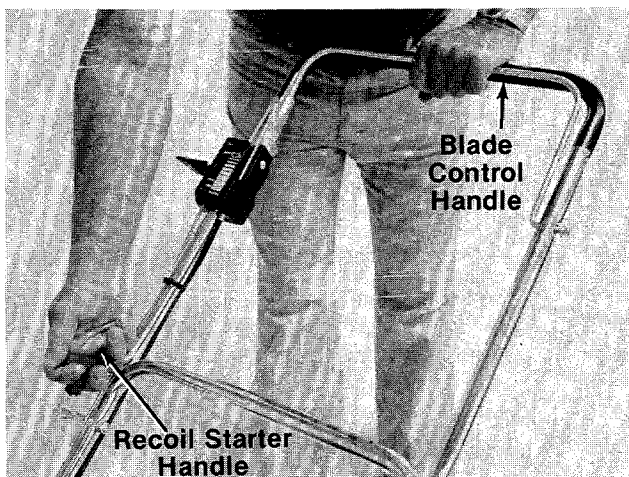

FIGURE 15.
3. Standing behind the unit, depress the blade control handle and hold it against the upper handle as shown in figure 15.